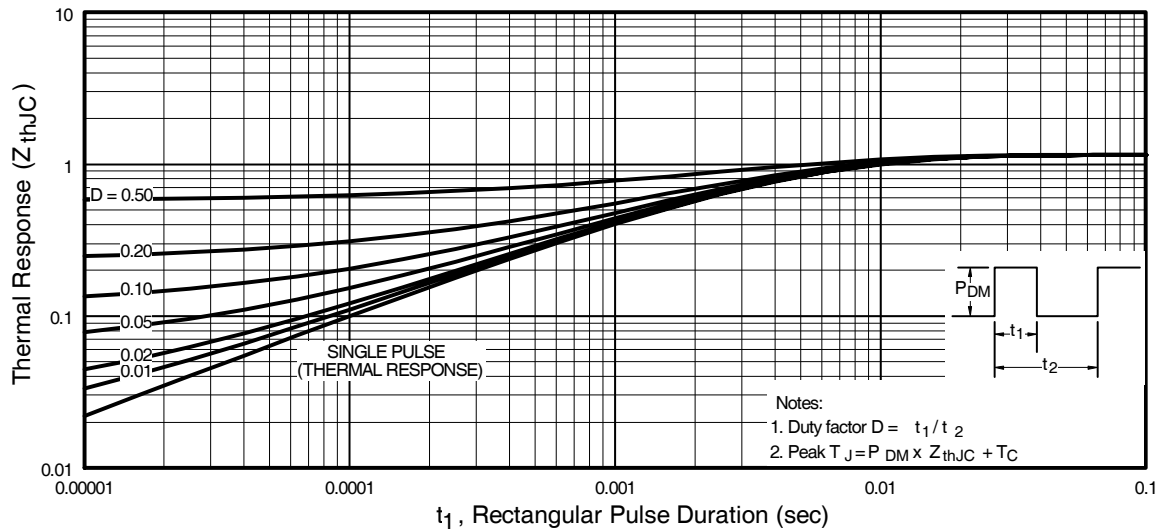

Fig 11. Maximum Effective Transient Thermal Impedance, Junction-to-Case
- ① Repetitive rating; pulse width limited by max. junction temperature. (See fig. 11)
- ② Starting $T_J = 25^\circ\text{C}, L = 0.37\text{mH}$